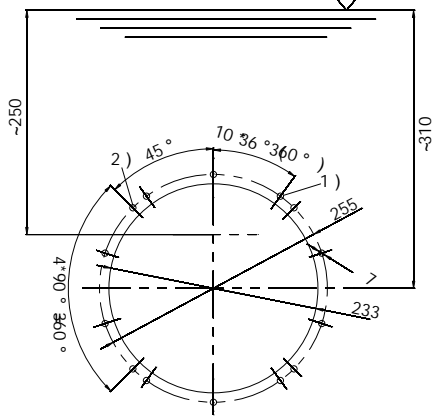

Figure 3
- a) Using the template drill 14 holes into the fibreglass pool shell. (Figure 3)
- c) Mount the counter current jet faceplate onto the fiber pool using 10 piece of M6 screws. (Hole 1 in Figure 3)
- Opened the corresponding holes from inside of the cement bag and the holes should be completed with the fiber pool (figure 3).